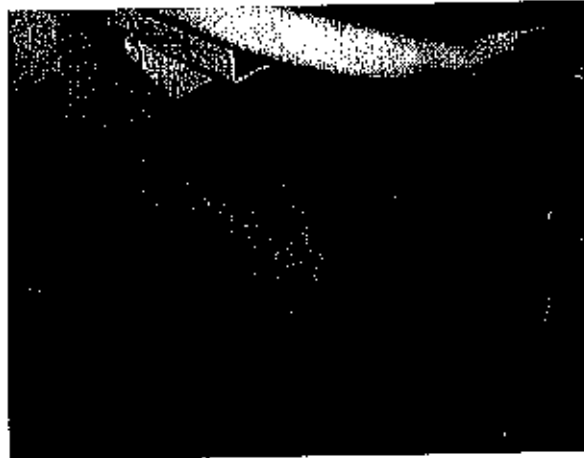

Figure 21: Press the Retract Button
6. Grasp the cot frame at the foot end and press the retract (-) button, until the undercarriage of the cot retracts into its highest position as shown in Figure 21).